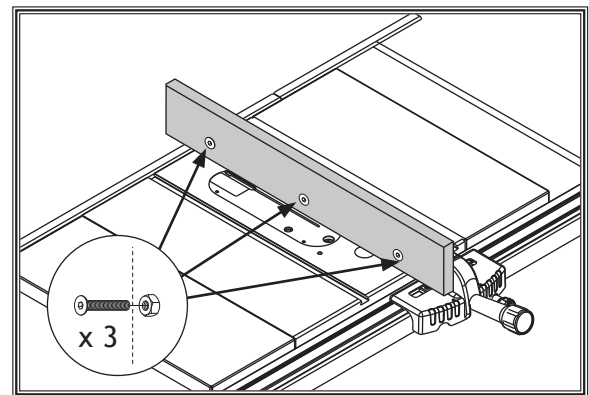

Figure 72. Example auxiliary fence attached to included fence.
7. Insert cap screws through holes in auxiliary fence board (see **Figure 72**).
8. Align cap screw threads with hex nuts and tighten (see **Figure 72**).